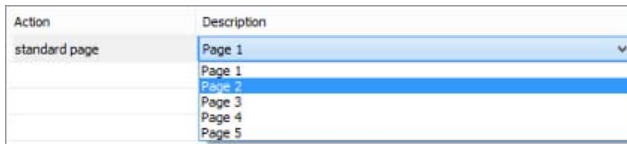

FIG. 382 Standard Page Flip drop-down menu
6. Under *Description*, select the target for this Page Flip from a drop-down menu of all pages in this project (FIG. 382):